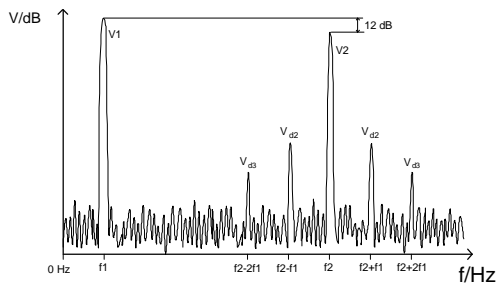

FIG. 2: Measurement of intermodulation distortion to DIN 45403 and IEC 268-2
□ Intermodulation distortion to DIN 45403 and IEC 268-2 (see **FIG. 2**), as well as